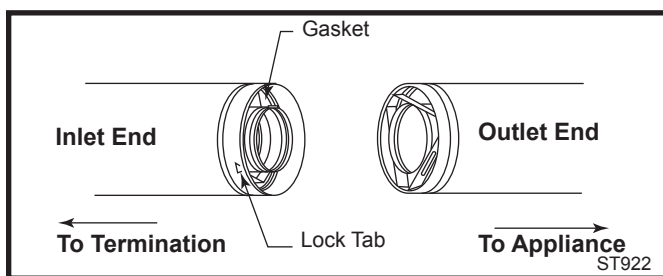

Fig. 33 Joint connection.
2. Remove soil to a depth of approximately 16" (400mm) below the base of the snorkel. Install a window well (not supplied). Refill the hole with 12" (305mm) of coarse gravel and maintain a clearance of at least 4" (102 mm) below the snorkel. (Fig. 33)
The pipe and elbows are assembled by inserting the outlet (male) end of a length of pipe or elbow into the inlet (female) end of an adjacent length of pipe or elbow. Make sure the outlet end is fully seated within the inlet end of the adjoining section and the gasket, located on the inner liner of the inlet section is fully enclosed by the inner liner of the outlet of the adjoining section. Push in the Lock Tab such that it becomes seated within the inward groove of the adjoining section. This locks the joint in place. (Fig. 33)